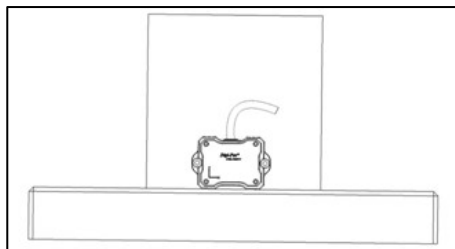

Figure 43. Tilt Sensor Module Position of Calibration Step 1
- Locate the sensor module as following Figure 43. The sensor is ready for user to perform calibration step 1
11. For **DWL5500XY & DWL5800XY** model, please perform only 4 steps calibration as shown in Figure 43, 44, 49, and 50.